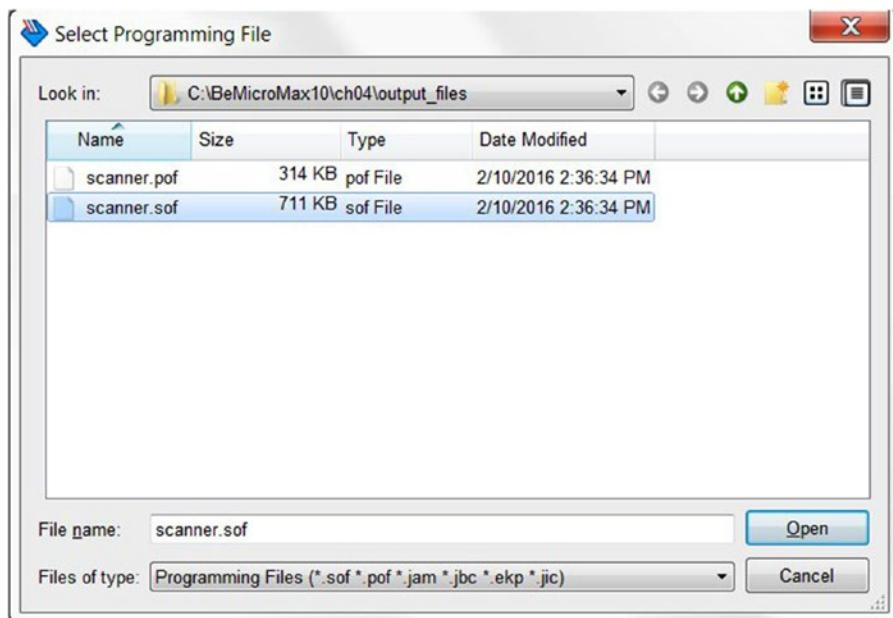

Figure 4-59. Programmer—Select Programming File
4. Select the output_files folder under the project and open the bit file scanner.sof you just generated (Figure 4-59). This .sof file is for directly programming the FPGA, which means it will be stored in SRAM (static random access memory) and thus will be erased when you unplug the FPGA. You can select the .pof file instead if you want to upload the bit file to the flash storage inside the FPGA. In this case the program will not get erased by a power cycle.